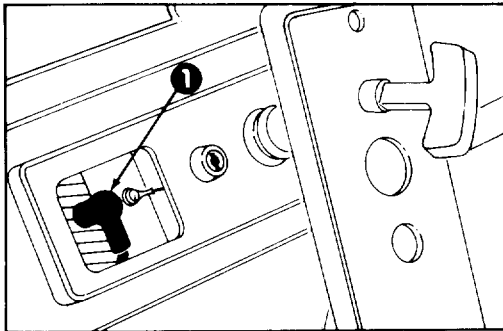

Figure 16
**2. REMOVE SPARK PLUG (Fig. 16)** — Pull wire off spark plug and remove plug. Examine the plug and replace if cracked, fouled, or